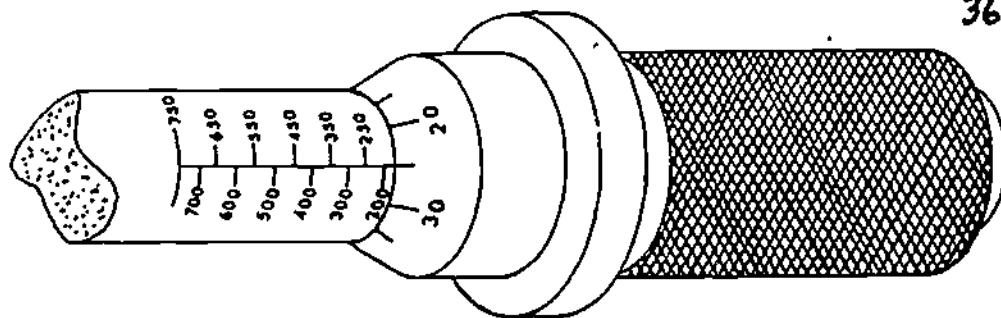

Figure 3.
19. Turn the grip back until the 150 inch-pound index is exposed, then set the grip to exactly 175 inch-pounds, (figure 3). After you have done this, check the illustration below to see if your handle setting is exactly the same; 150 on the shaft scale plus 25 on the vernier scale = 175 inch-pounds.